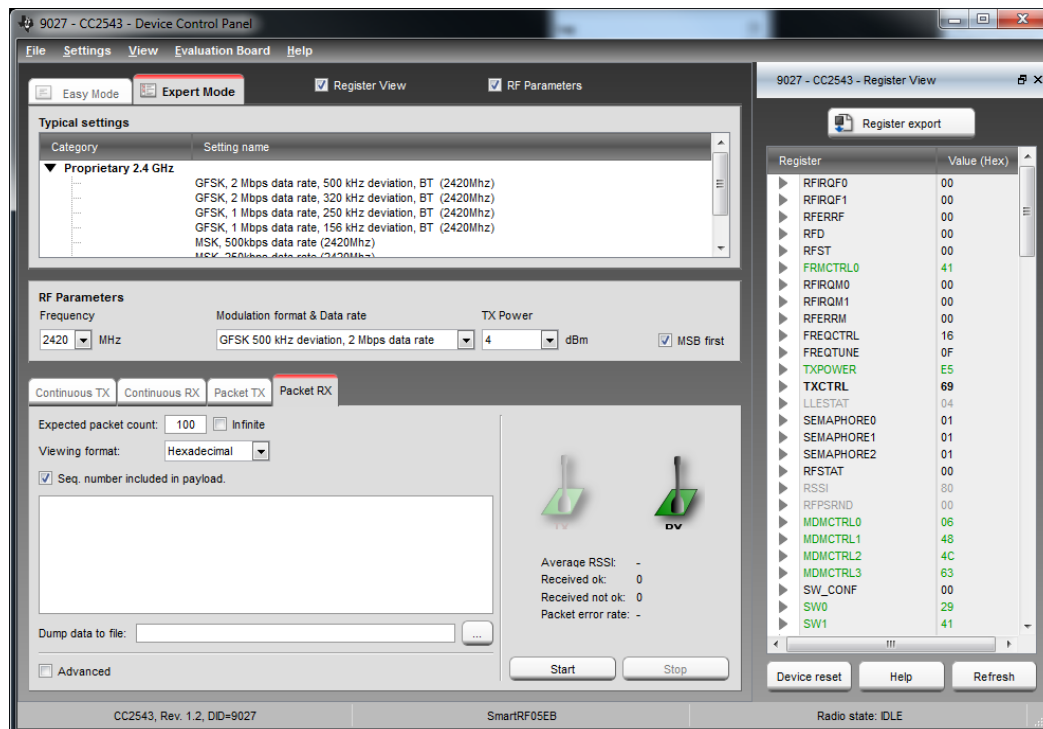

Figure 4 - CC2543 control panel in SmartRF Studio
Figure 4 shows the main control panel for the CC2543. It lets you perform a number of operations:
- Select one device to be the transmitter, by selecting the “Packet TX” tab shown in the lower middle of Figure 4.